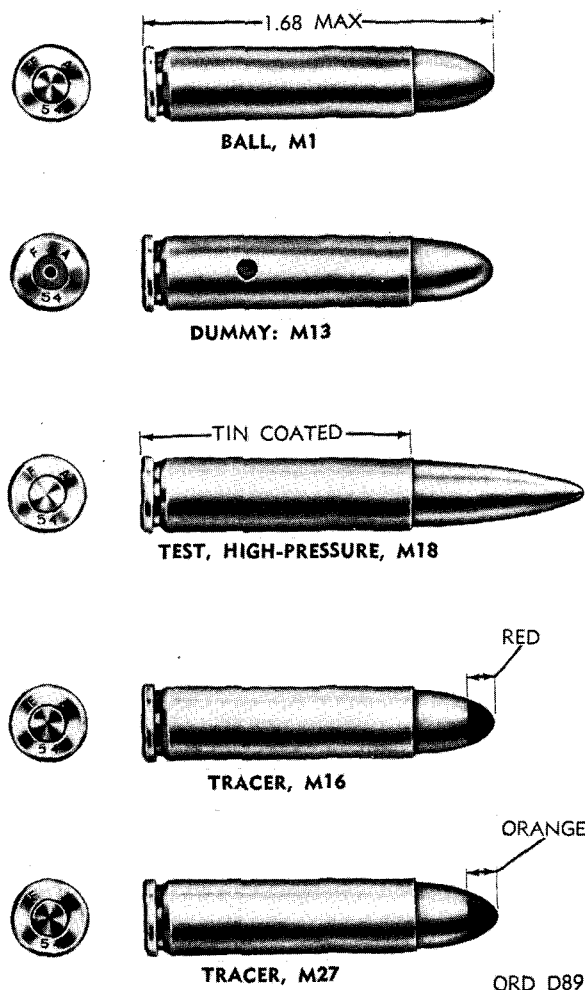
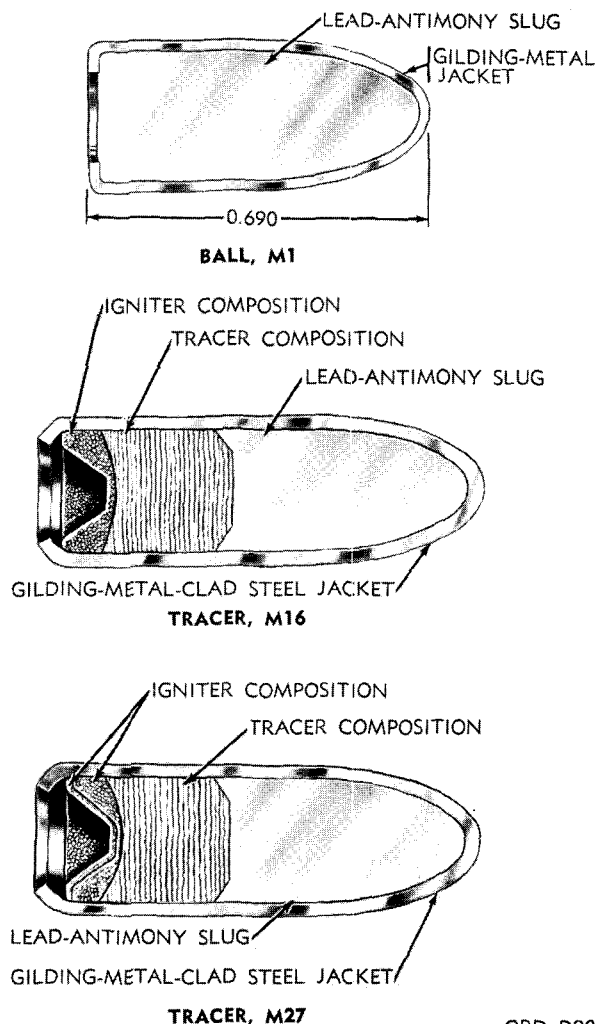

Figure 23. Caliber .30 carbine ammunition.
Figure 24. Caliber .30 carbine bullets—sectioned.
*a. Ammunition for caliber .30 carbines* is shown in figure 23. Caliber .30 carbine bullets are shown in figure 24. Table X gives the component parts of these cartridges and table XI gives the weights of the cartridges and components.